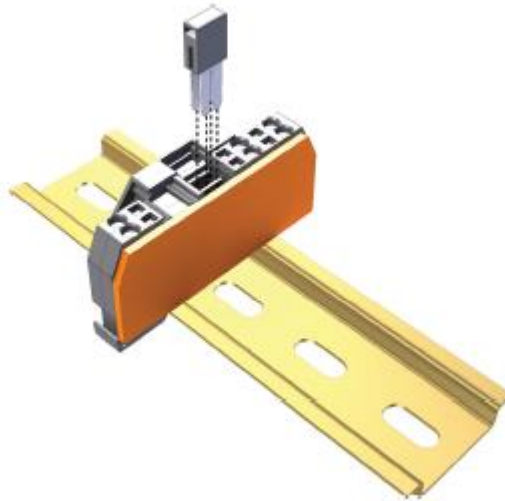

Figure A-4. #15909 Jumper installation
2. Insert the #15909 Jumpers in the terminal strips as shown in Figure A-4.